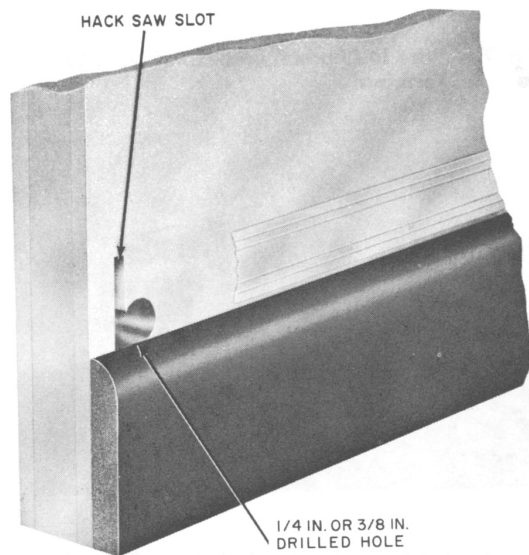

Fig. 15 — Hole Through Wall for B Station Wire
- (1) Drill 1/4- or 3/8-inch hole through wall at desired location.
- (2) With a keyhole hack saw, cut a slot on side of hole opposite direction of intended wire run (Fig. 15).
- (3) Carefully pass only a few inches of wire through wall, place a No. 718 tap, and splice wire at this point to extend wire run.